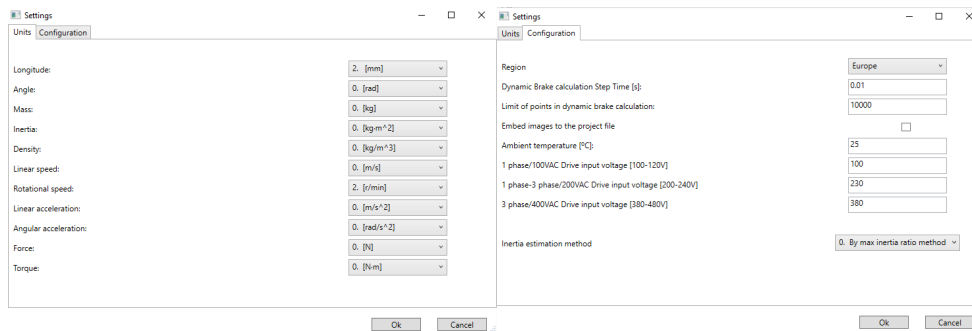

Fig. 13 Settings
- Settings: opens a dialog box, which contains the basic settings of the application. See Fig. 13. The first tab includes the measurement units shown in the tool. The second tab includes some configuration parameters;